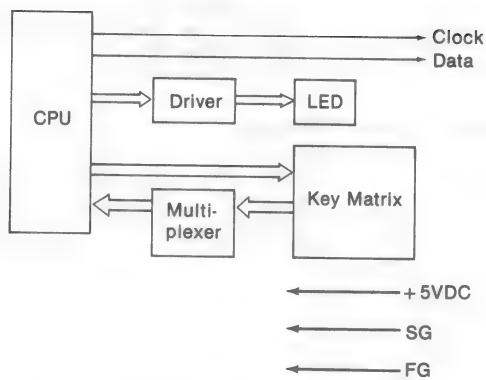

Figure 1 Keyboard Block Diagram
- Figure 1. Keyboard Block Diagram